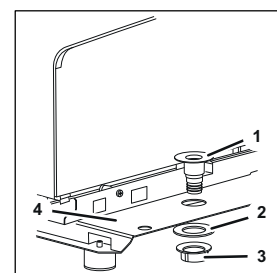

Fig. 18
5. Remove the fastening nut (Fig. 18/3).
6. Remove the fastening nut (Fig. 18/3) and pull the flat seal (Fig. 18/2) down from the drain fitting (Fig. 18/1).
7. Pull the drain fitting (Fig. 18/1) through the opening of the bottom of the unit in an upward motion.